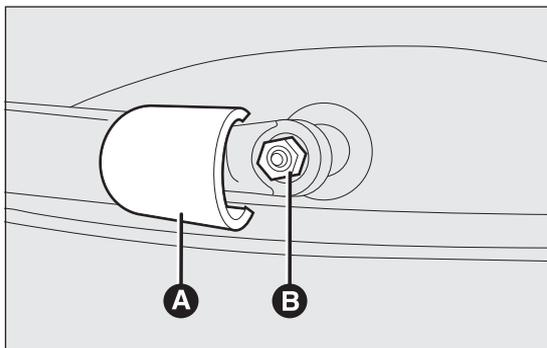

fig. 143
- raise the cover A fig. 143 and remove the arm from the car, undoing the nut B fig. 143 that fastens it to the pivot pin;